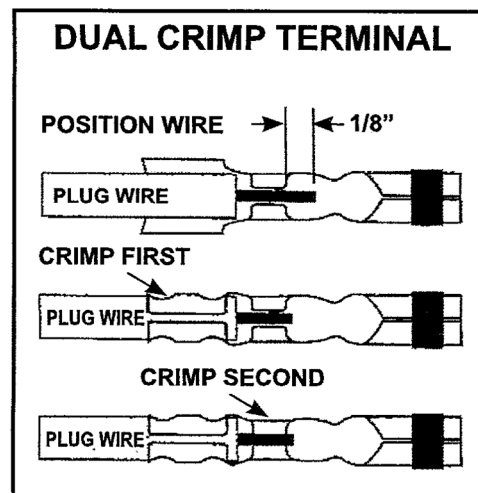

Figure 5 Crimping a dual crimp terminal
1. After stripping the sleeve, fold the wire in the terminal so the insulation protrudes about 1/8" beyond the insulation crimp tabs and the conductor extends about 1/8" past conductor crimp tabs (Figure 5).